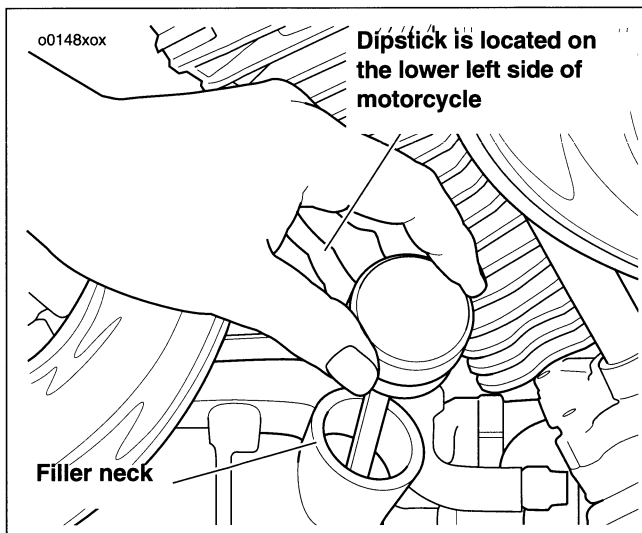

Figure 38. Dipstick Location
1. See Figure 38. To remove dipstick/oil plug, pull steadily on the plug while moving it back and forth.